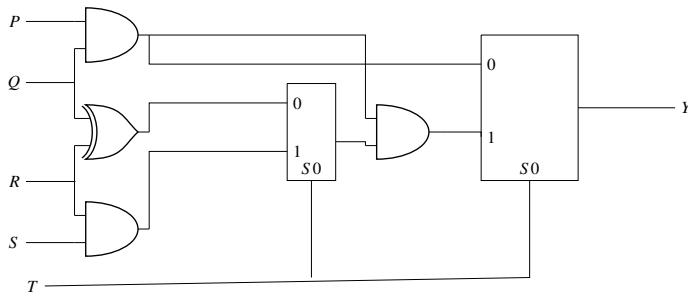

Fig. 3.19: circuit diagram
36. The propagation delays of the XOR gate, AND gate and multiplexer (*MUX*) in the circuit shown in Fig. 3.19 are $4ns$, $2ns$ and $1ns$, respectively. If all the inputs P, Q, R, S and T are applied simultaneously and held constant, the maximum propagation delay of the circuit is